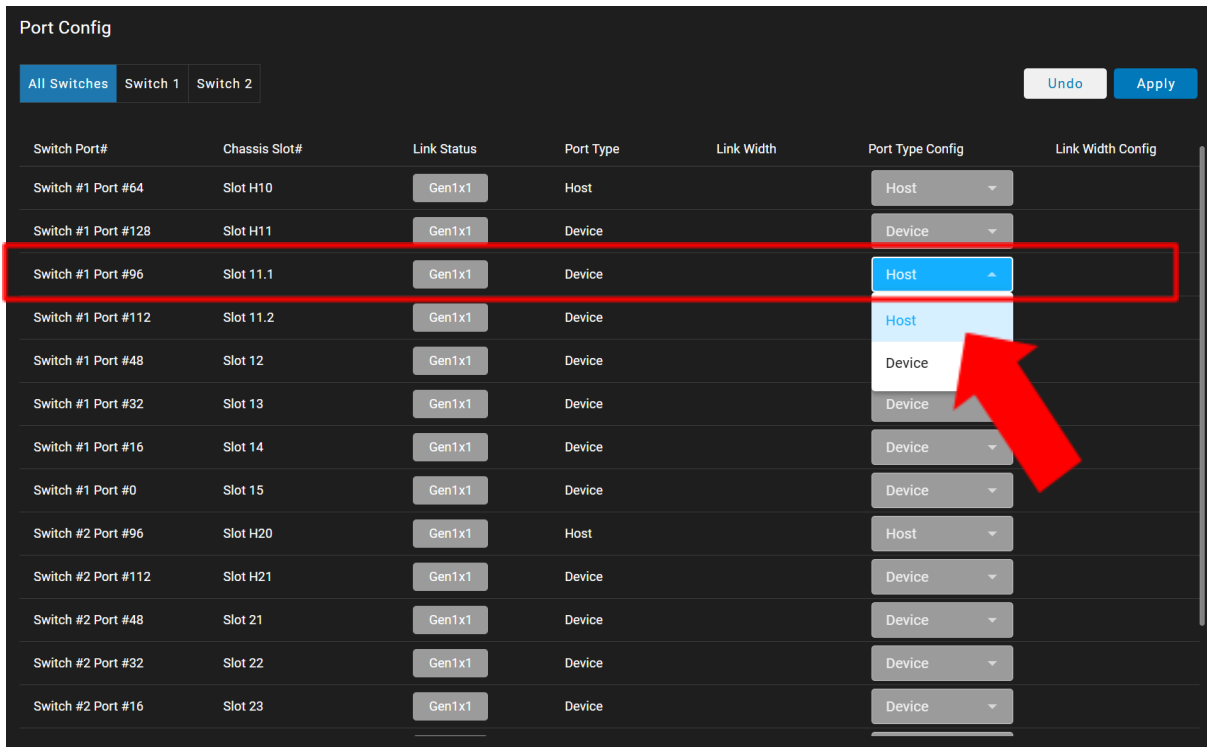

Figure 80. Changing Port Configuration from Device to Host in expansion cables
- A. Choose the desired port type (refer to Figure 80):